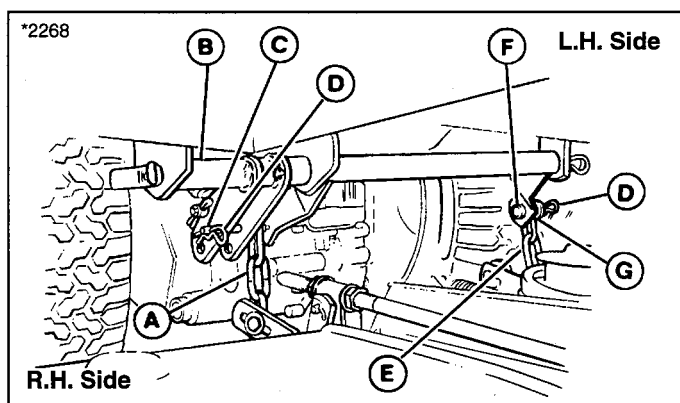

Figure 6. Mower With Electric Lift
4. See Figure 6. Connect the mower lift chains (A & E) to the tractor lift arm (B) using the clevis pins, washers and safety clips. Install the shorter clevis pin (F, Figure 6) on the left side as shown.
4. Disconnect the mower lift arms from the tractor lift arm (Figure 6). Re-install clevis pins, washers and safety clips on mower lift arms for storage.